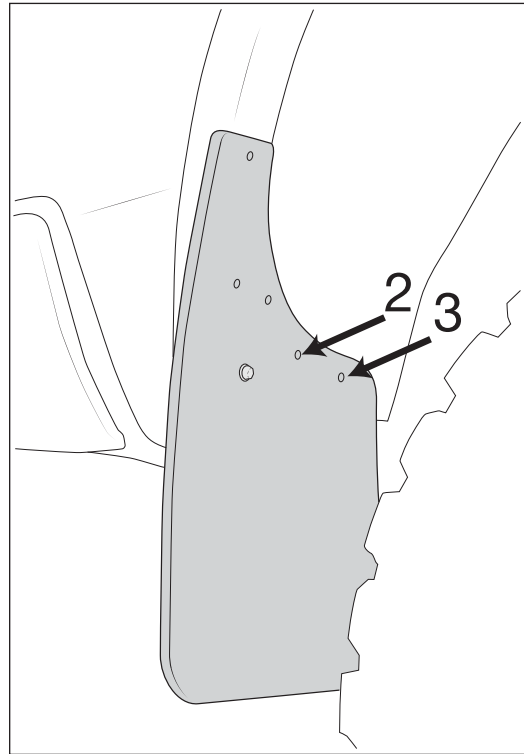

Figure 2
11. Ensuring that the bottom edge of the Splash Guard is still parallel with the ground, drill 8 mm holes through the fender liner at locations 2 and 3 (Fig. 2).